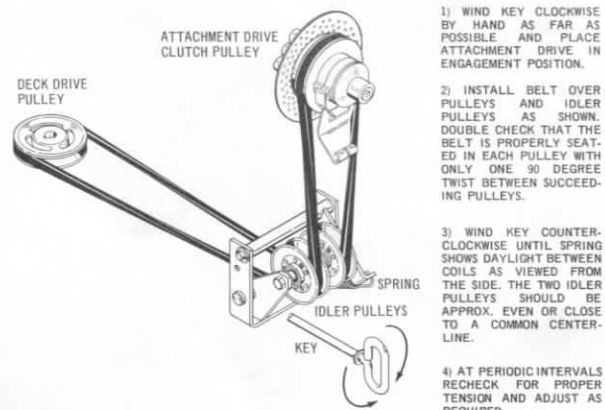

Figure 5.
- Drive Belt Tension: See Figure 5.